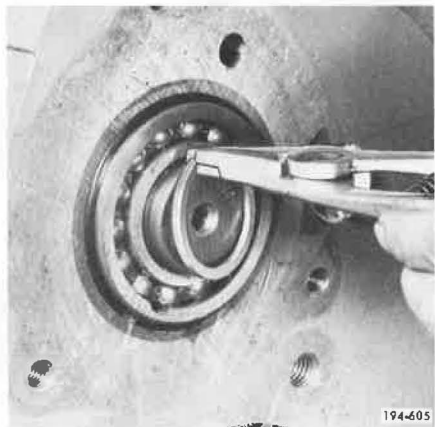

Figure 72. Removing Snap Ring
13. Remove rear countershaft rear bearing retaining snap ring, using snap ring pliers J-25445 or equivalent. See Figure 72.